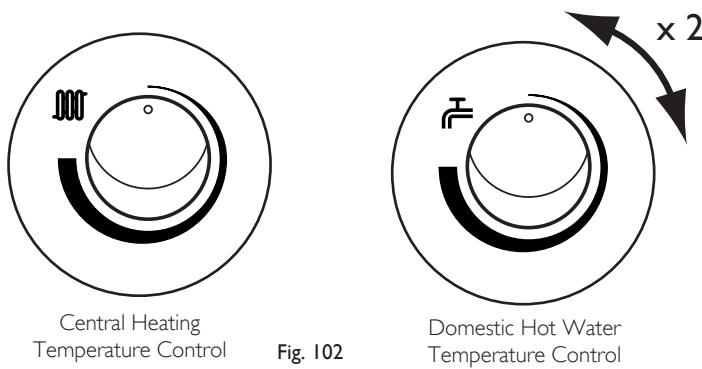

Fig. 102
3. Turn both control knobs fully anticlockwise, then quickly turn the right hand knob $\frac{1}{4}$ clockwise twice and back fully anticlockwise (Fig. 102).